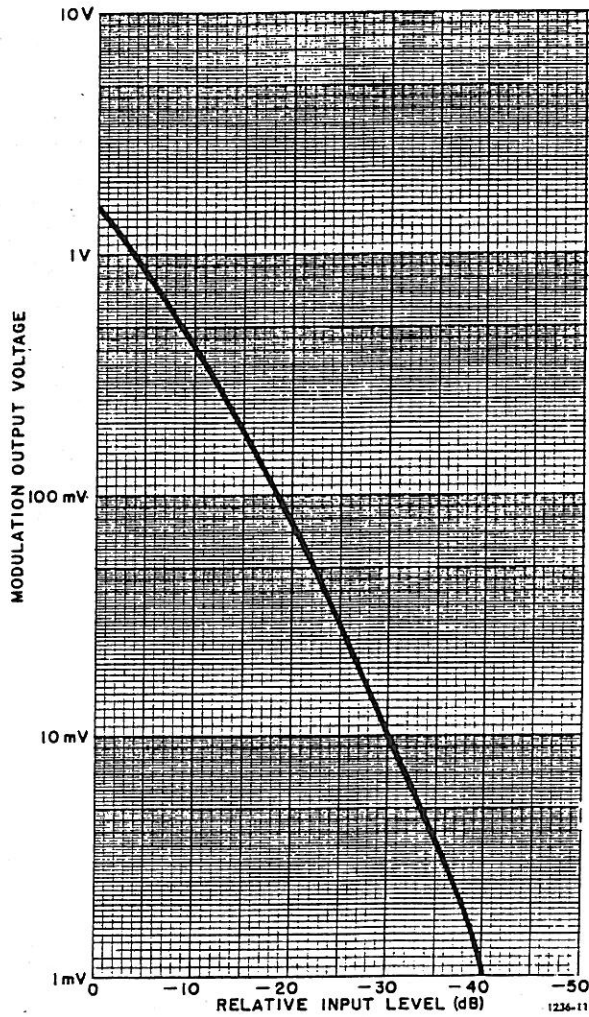

Figure 3-5. Typical modulation output voltage of a 1236 amplifier. Gain control is set at minimum.
- a. level recording; Figure 3-5 shows the relationship between the modulation-output level (input to the recorder) and the i-f signal level.
The modulation (video output, 1-MHz bandwidth) signal is available at the binding posts at the rear of the instrument. The output resistance is approximately 600  $\Omega$ . The open-circuit output level is 1.5 V rms, for a 100% modulated i-f signal and full-scale meter deflection. Figure 3-5 shows the open-circuit output voltage as a function of the relative input-signal level, with the gain control set at minimum.